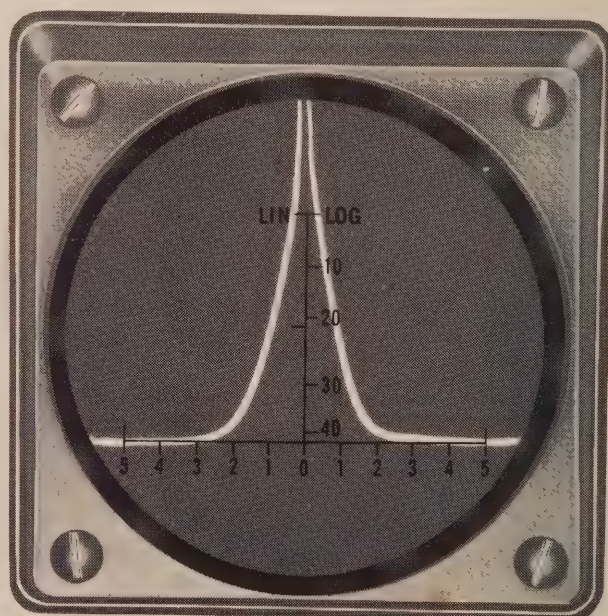
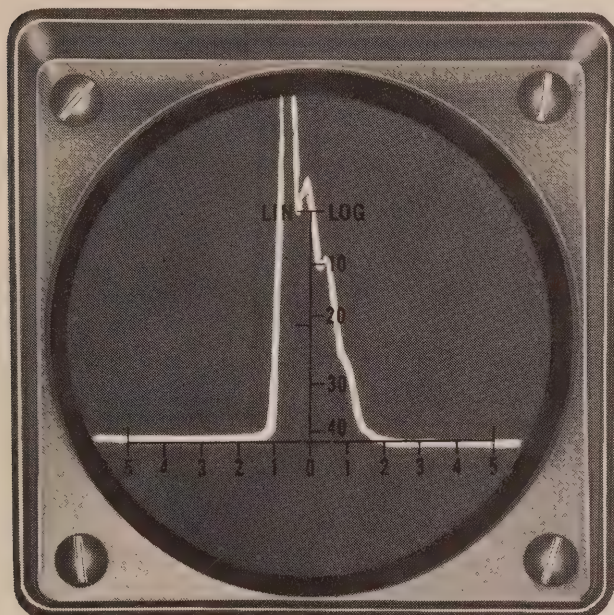

Figure 10
Figure 11
- ( ) Compare the pip on the CRT screen with the pip shown in Figure 10. If there is any ringing or flyback on either side of the pip, as shown in Figure 11, adjust the core of transformer T1 to minimize it. Only a slight adjustment should be necessary from the factory preset position.